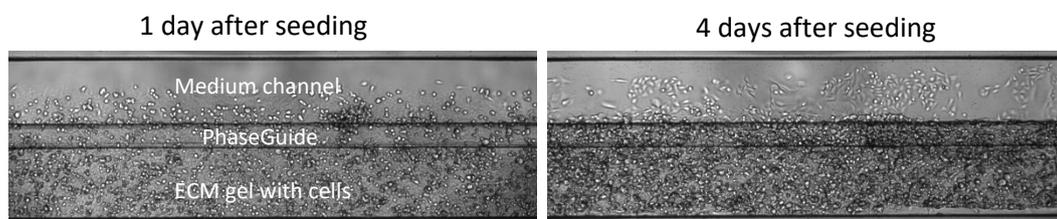

Figure 7: Pancreatic cancer cells cultured in collagen-I in the OrganoPlate® 2-lane
13. An example of a cells-in-gel culture in the OrganoPlate® 2-lane is shown in figure 7.